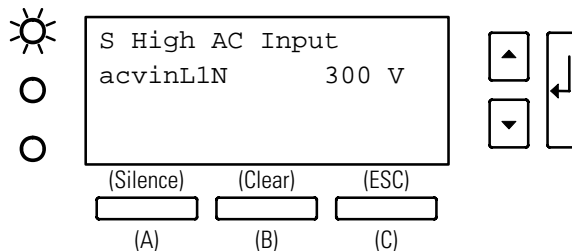

Figure 51. Typical Active Alarm Display
Figure 51 shows a typical alarm display. Alarms are annunciated by a constant Alarm LED and a constant beep. During alarm display, button (A) silences the audible alarm, button (B) clears the alarm display, and button (C) performs the normal Escape function to exit from the alarm display. The \downarrow button enables you to scroll through all alarms, and the \blacktriangle and \blacktriangledown buttons scroll through any other parameters related to the displayed alarm.